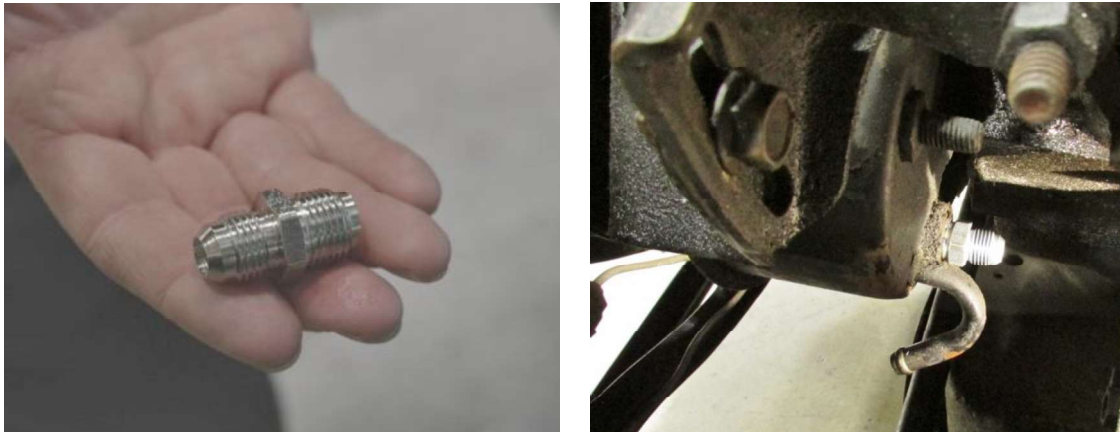

Figure 7 - Install P/S Pump Fitting
8. Remove the power steering hoses from the truck. **NOTE:** If you have a GM Type 1 power steering pump, install the DSE power steering pump fitting (PN: 090203DS) into the back of the pump where the pressure hose was removed. Do not overtighten (Figure 7).